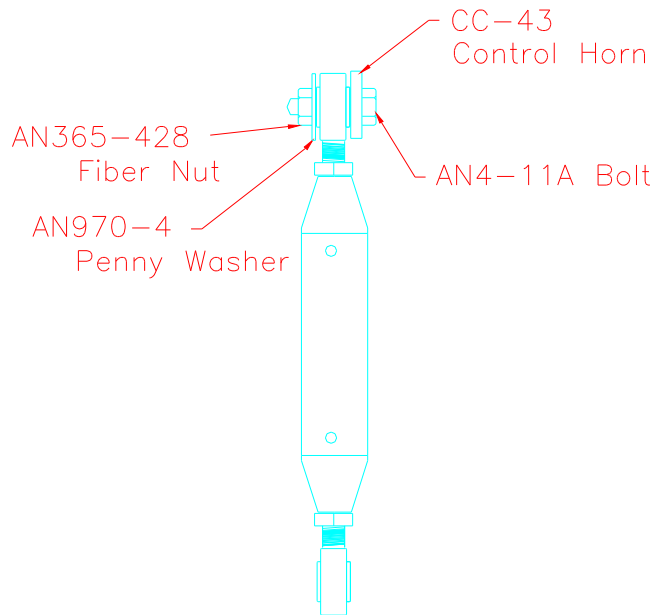

Figure 10.14.3
9) Attach push-pull tube (CC-82) to the control horn (CC-43) with an AN4-11A bolt, AN970-4 washer and an AN365-428 fibernut. Figure 10.14.3.